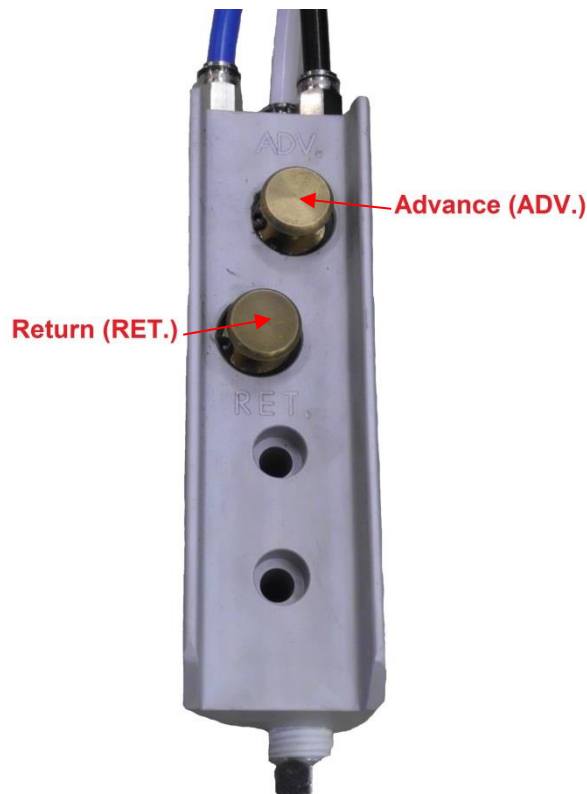

Figure 2 - DPR-173S – Remote Pendant
- 5.1.2 **Advance** - Press the remote pendant ADV. button (see Figure 2) to start the air motor and advance the cylinder until the desired pressure, load or position is reached. Releasing the ADV. button will stop the motor and hold the cylinder position.
- 5.1.3 **Retract** – Press the remote pendant RET. button (see Figure 2) to start the air motor and retract the cylinder until the desired pressure, load or position is reached.